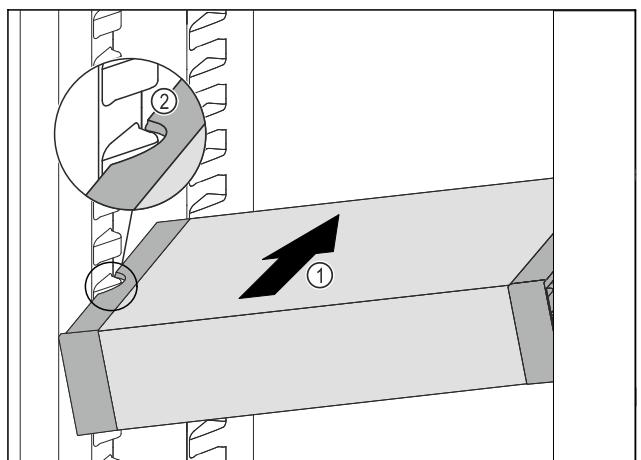

Fig. 87
- ▶ Insert the VarioSafe into the fridge section at an angle Fig. 87 (1) until the recesses in the side Fig. 87 (2) of the VarioSafe are at the level of the support rib in the fridge section.